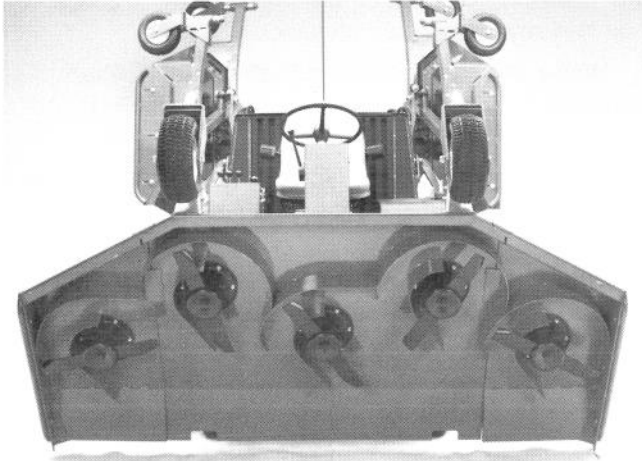

Figure 54
Note: Although not needed for normal maintenance procedures, the front cutting unit can be pivoted (tilted) to a fully upright position (Fig. 54). Should you desire to tilt the cutting unit, proceed as follows:
6. Use at least one other person to tilt the cutting unit. Grasp the front of the unit and lift it to an upright position (Fig. 54).